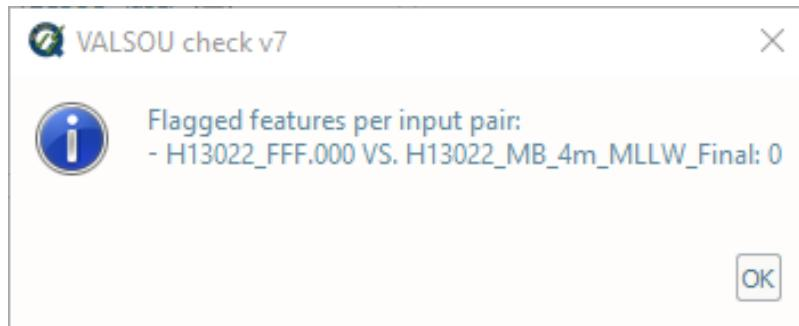

Fig. 2.50: The output message at the end of **VALSOU check v7** execution.
- After computing, the output window opens automatically, and the results are shown (Fig. 2.50). Note, the check considers all combination of grids and features files loaded. If there is no overlap found between a grid and feature file, no output is generated, and the summary will report “no overlap”.